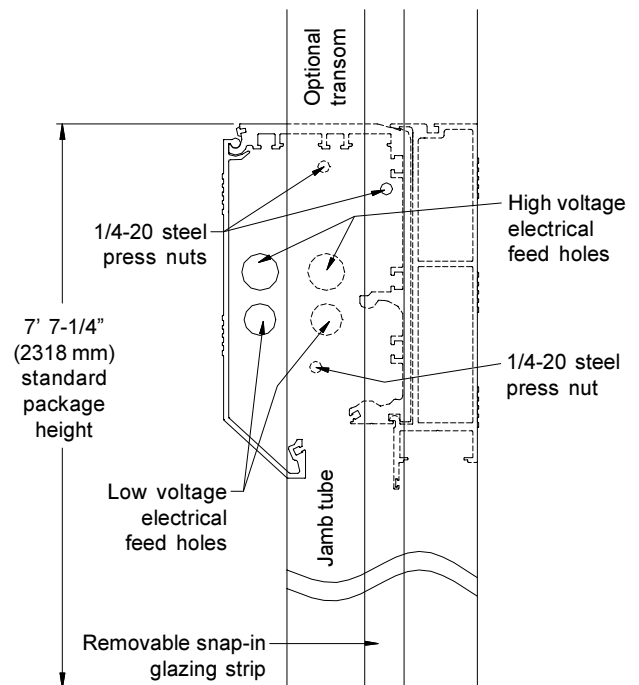

Figure 6. Jamb Tube Attachment to Header
3. Align the jamb tubes with the ends of the header, making sure that the bolt holes and electrical feed holes line up. Use three 1/4-20 x 1" long bolts on each side to secure the header end cap to each jamb tube. Then install one dress end cap on each side using the #8-32 screws (**Figure 6**).